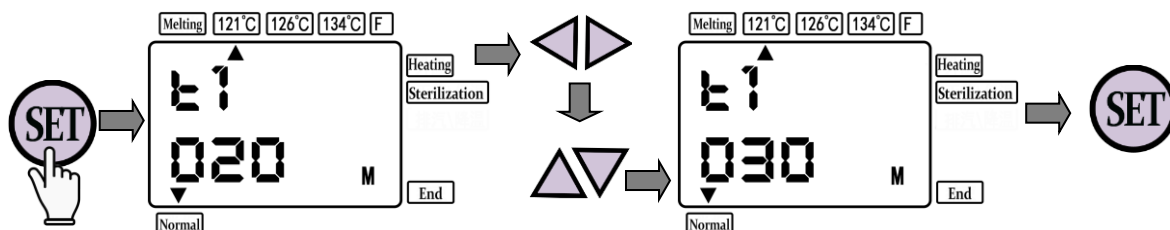

Fig. 11
② Set the sterilization time: Press the "Setting" key to the sterilization time setting interface (Fig.11). You can press the left and right keys to position the cursor, and then press the "Add" key to set. The value is only can be added but not reduced. After setting, please press the "Setting" key to save the modification.